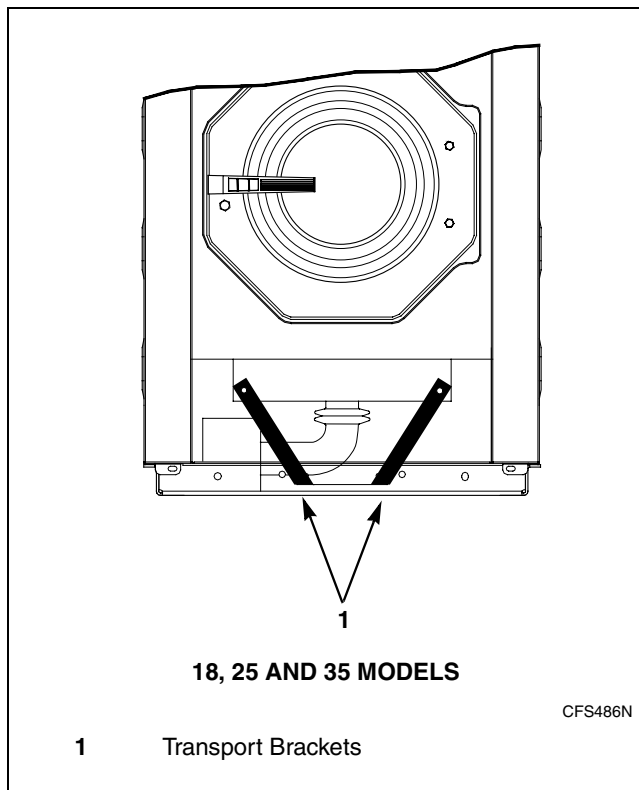
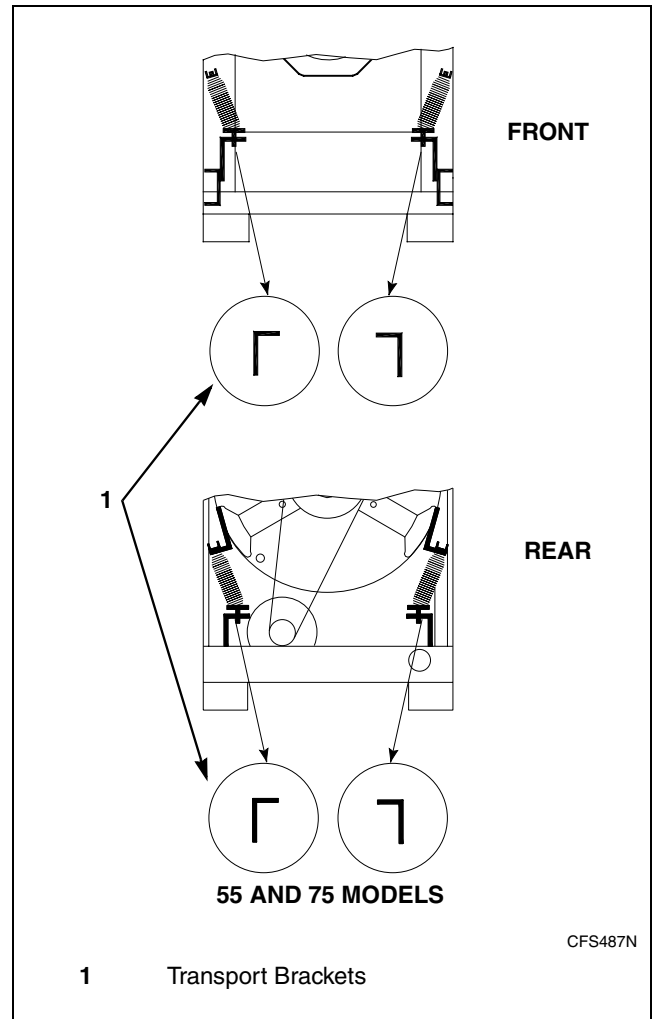
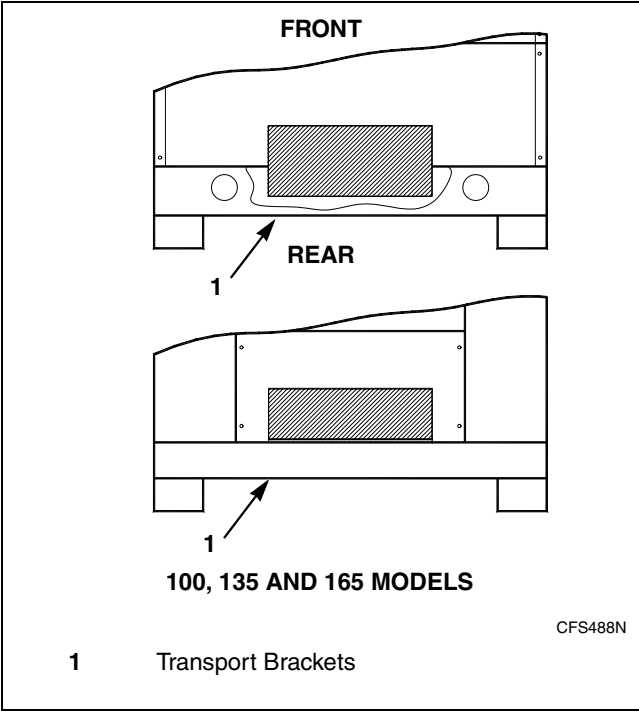

Figure 18
Figure 19
Figure 20
8. Remove the four red transport brackets which secure the moving components of the machine during shipping. Refer to *Figures 18 and 19* for typical transport bracket locations.
To prevent damage during transportation, the machine has been equipped with four red transport brackets (refer to *Figure 18* for 18, 25 and 35 models; refer to *Figure 19* for 55 and 75 models; refer to *Figure 20* for 100, 135 and 165 models) to eliminate every possible movement of the tub.